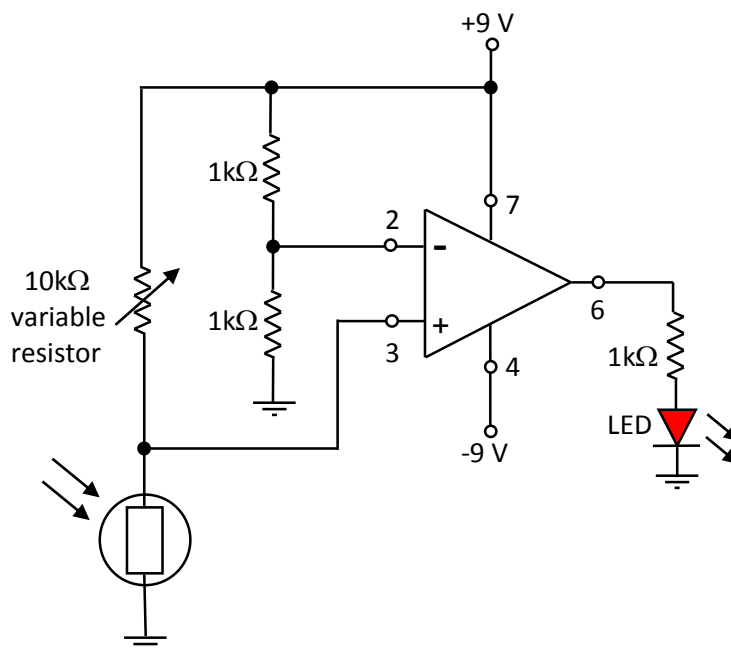

Figure 6: Circuit diagram of Light/dark sensor using a comparator
6. Connect the circuit shown in Figure 6.
9. Interchange the LDR and variable resistor in the circuit shown in Figure 6.